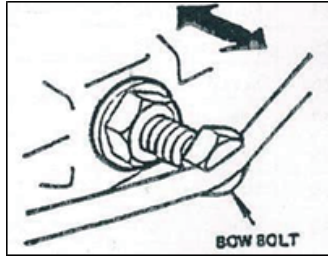

Figure 5
The bow bolt (70) can be adjusted if the cutter head cannot cut the workpiece. Tighten the bolt with forward strength, which can help reduce the clearance between upper blade (24) and lower blade (25). (See Figure 5)